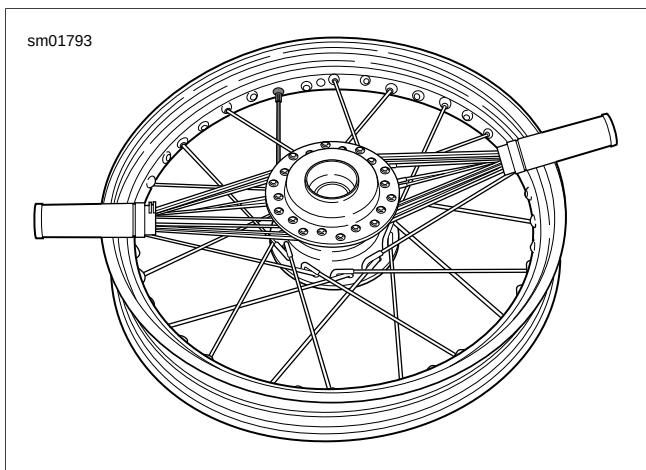

Figure 2-52. Completed Spokes-Bottom Flange Inner
- b. See Figure 2-52. Verify inner spoke reaches spoke nipple and secure spoke loosely by hand. Skip every other hole and repeat lacing. Follow pattern to complete bottom row inner spokes (long-head).